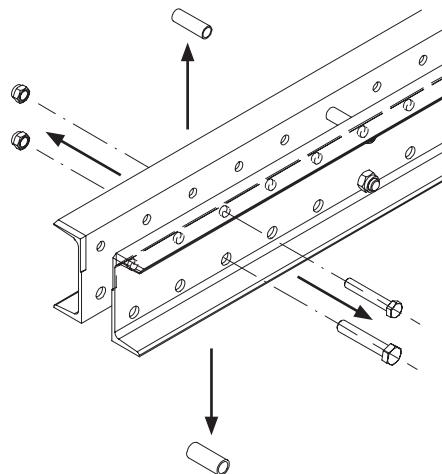

Fig. B2.01a
3. Remove external spacers.(Fig. B2.01a)
(Fig. B2.01a)